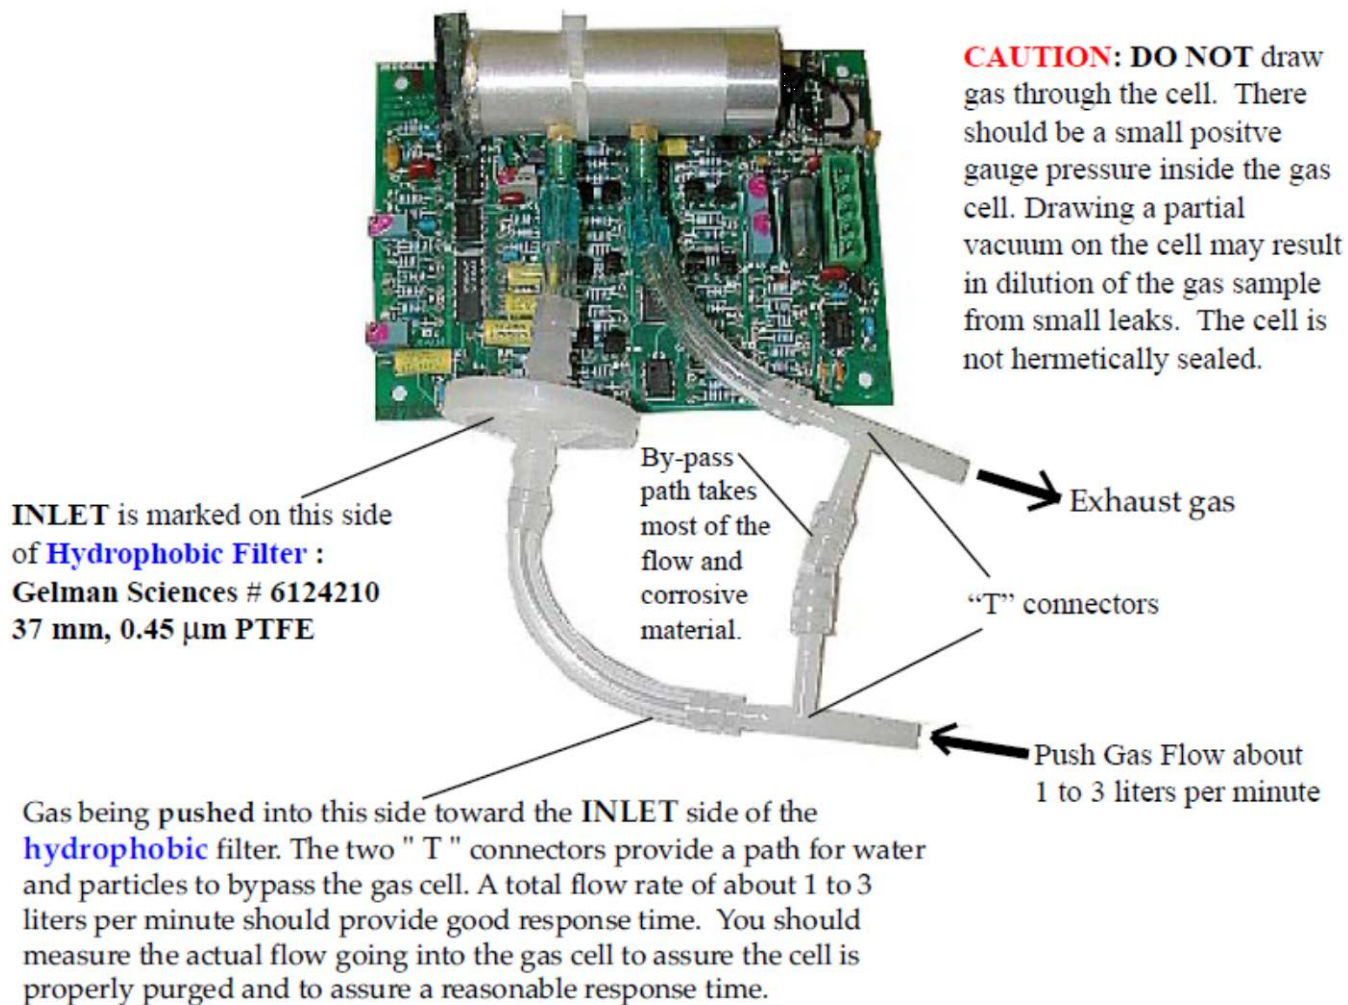

FIGURE 5
3. See Figure 5. This setup improves **Zero Stability** and **sensor life**.